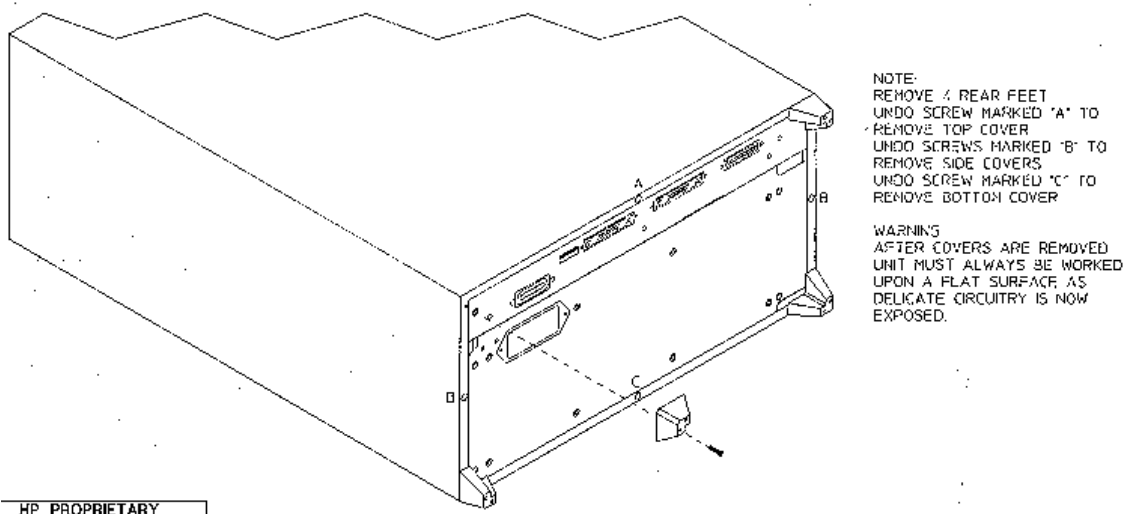

Figure 2
1. Remove the 4 rear feet and undo screws marked A, B and C to remove the side, top and bottom covers as shown in FIG 2.